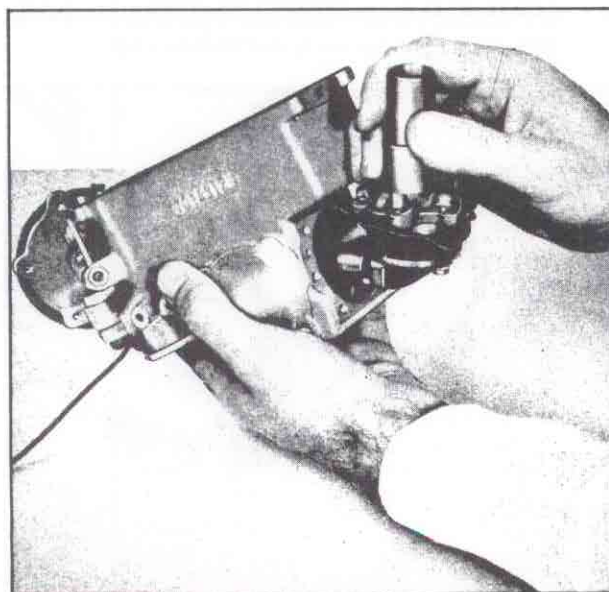

Figure 46
- install the pump in the bowl (fig. 46). Install five attaching screws and tighten securely.